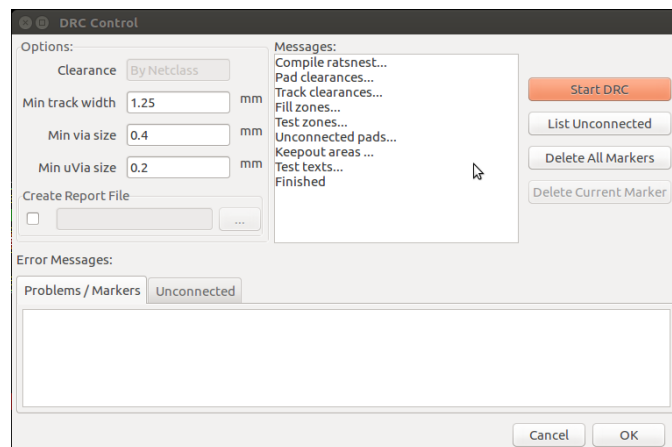

Figure 12.21: DRC Control Window
2. Click on **Perform Design Rules check** button from the top menu bar of Pcbnew. DRC Control Window will pop-up as shown in Fig. 12.21.
errors in the design present, there will not be any errors in the message window as shown in Fig. 12.21